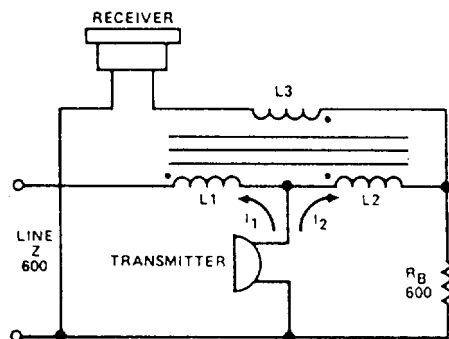

Figure 6-15.—Schematic diagram of the sidetone circuit.
**SIDETONE CIRCUIT.**— Figure 6-15 is a simplified schematic diagram of the receiver sidetone circuit. Because current will not flow through a balanced circuit, the turns ratio of inductors L1 and L2 is unbalanced by a predetermined amount and the value of resistor  $R_B$  is changed so as not to match the line impedance. This way, a controlled amount of signal can be induced into L3 to be used as receiver sidetone.